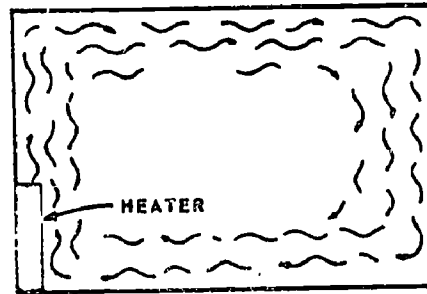

Fig. 2
43. Which term applies to the transfer of heat by another agent such as air as illustrated by figure 2?